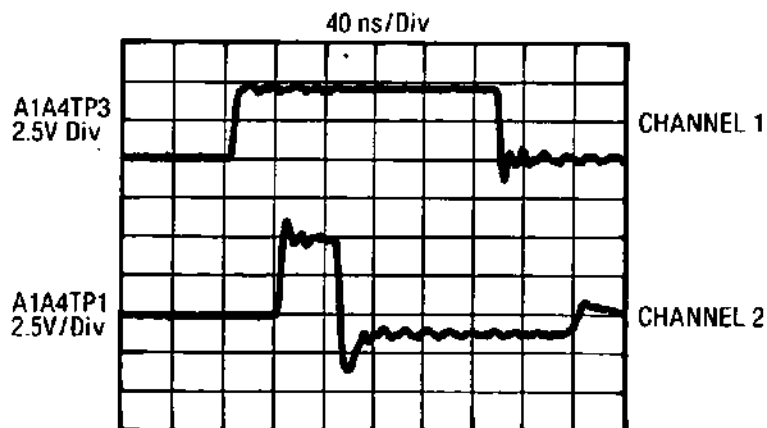

Figure 8-47. Pulse Driver Board Input and Series Pulses
18. Connect Channel 1 of the oscilloscope to A1A4TP3 and Channel 2 of the oscilloscope to A1A4TP1. Adjust the oscilloscope as shown in Figure 8-47 then compare the oscilloscope display to the figure.